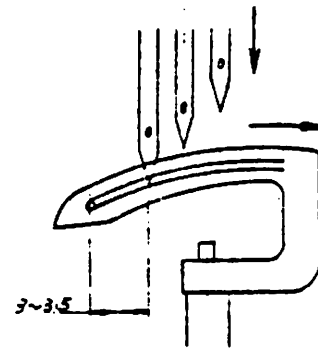

Fig 13
3. This time, the needle starts to move from its upper end to its lower end when the looper starts to move from its extreme right end to its left end. And this time, please check whether the top of the left needle and the back of looper contacts at the position 3mm-3.5mm from the center of left needle to the hole of looper as indicated in Fig. 13.